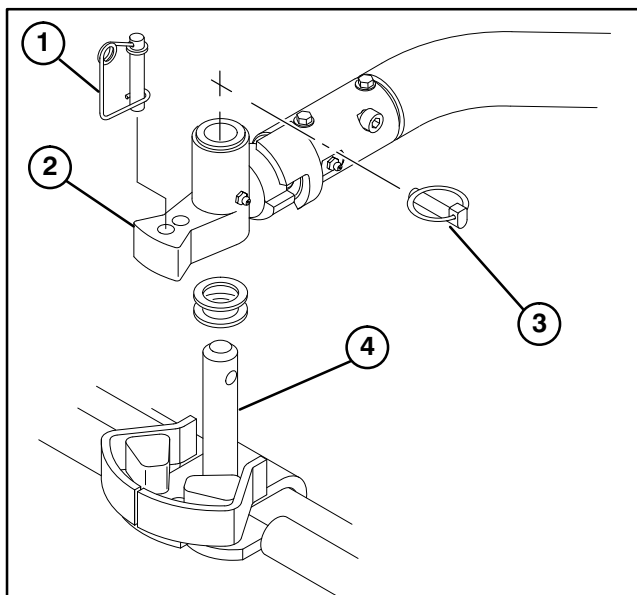

Figure 2
3. Remove steering pin and lynch pin from pivot knuckle and carrier frame pivot shaft (Fig. 2).